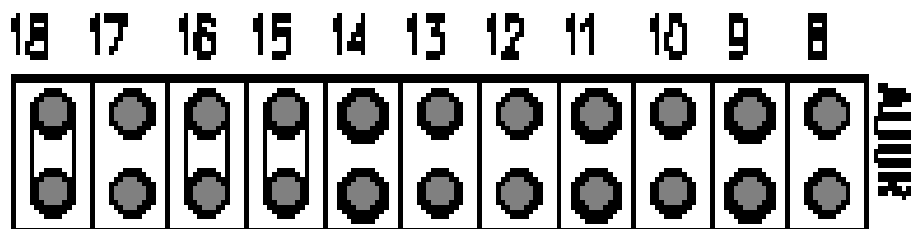

Fig. 2-2: Base address jumpers illustrating address D8000
- Fig. 2-2: Base address jumpers